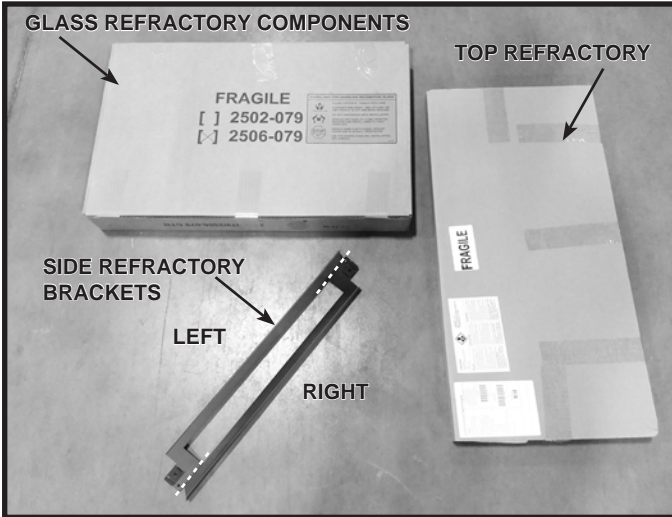

Figure 1. Black Glass Refractory Components
1. Locate the black glass refractory components which are shipped inside the appliance. The top refractory and glass refractory components are shipped as shown in Figure 1. The refractory bracket is shipped wrapped in microfoam.
2. Bend the refractory bracket along the break lines indicated by the dashed white lines in Figure 1 to separate it into two parts. The left and right brackets are noted in Figure 1.